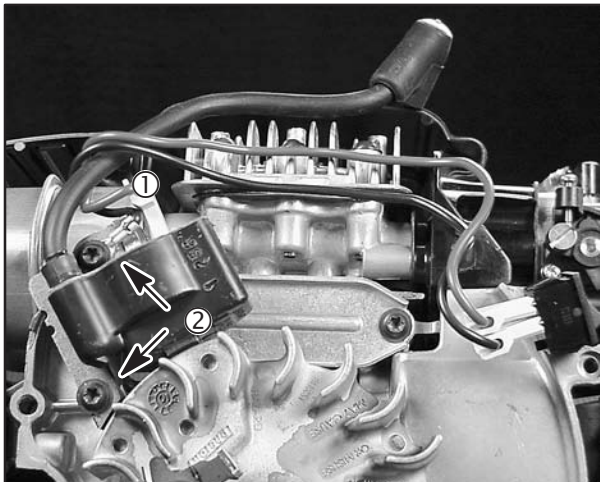

Fig. 17
- Disconnect stop switch wire (1).
- Remove 2 screws (2) and ignition coil with ground wire, Fig. 17.